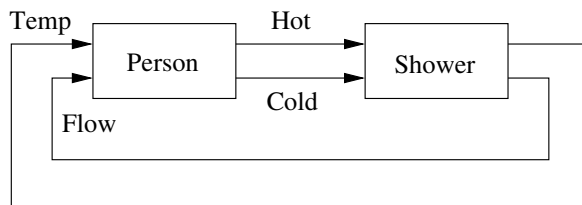

Figure 1.1 Block diagram describing a person in a shower.
- 1.1 a. The situation can be illustrated as in Figure 1.1. The temperature and flow are detected by the skin of the person taking the shower. Using this information, the faucets are used to adjust the water flow and temperature to the desired levels. The situation can be described mainly in terms of feedback.